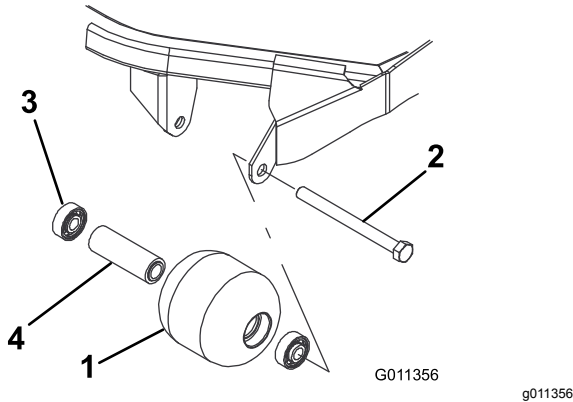

Figure 99
1. Remove the roller-mounting bolt (Figure 99).
4. Inspect the roller housing, bearings, and bearing spacer for damage (Figure 99). Replace damaged components and assemble.
1. Press the first bearing into the roller housing (Figure 99). Press on the outer race only or equally on the inner and outer race.
2. Insert the spacer (Figure 99).
3. Press the second bearing into the roller housing (Figure 99). Pressing equally on the inner and outer race until the inner race comes in contact with the spacer.